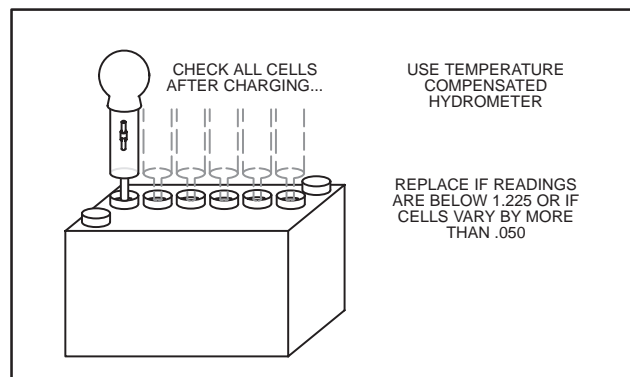

Fig. 723 – CHECKING 12V BATTERY CELLS (LEAD ACID – WET CELL – DRY CHARGE)
3. With battery fully charged, check specific gravity readings of each cell with a Battery Hydrometer and record readings, Fig. 723. All readings should be above 1.250 (compensating for temperature). If specific gravity readings varied .050 or if ALL cells read less than 1.225, replace battery.